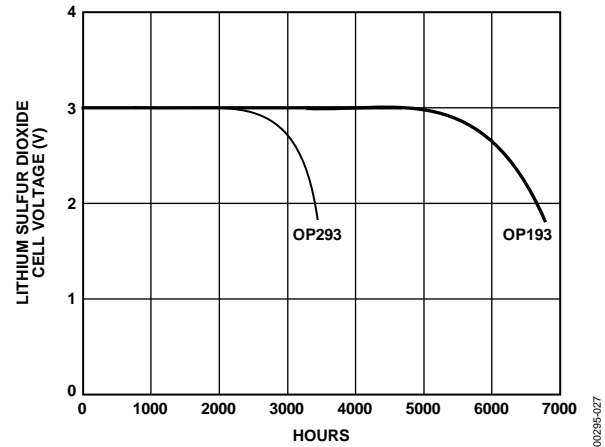

Figure 27. Lithium Sulfur Dioxide Cell Discharge Characteristic with **OP193/OP293** and 100 kΩ Loads Input Offset Voltage Nulling
**OP193/OP293** can be operated over the entire useful life of the cell. Figure 27 shows the typical discharge characteristic of a 1 Ah lithium cell powering the **OP193** and **OP293**, with each amplifier, in turn, driving 2.1 V into a 100 kΩ load.